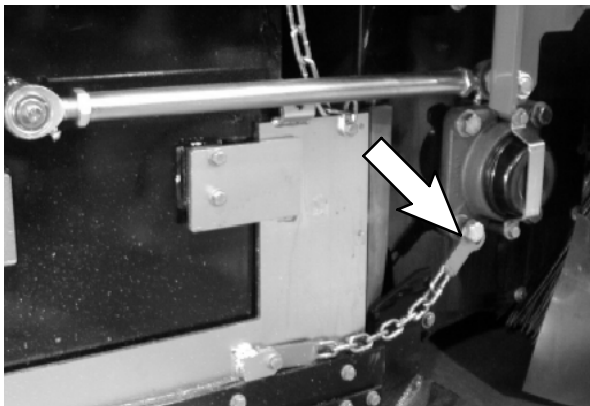

FIG. 2
2. Disconnect the side chains from both sides of the conveyor. Refer to Fig. 2.